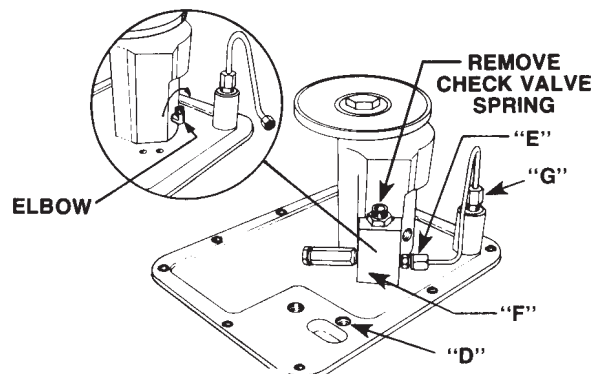

FIGURE 2
5. Remove the connector from the check valve to locate and remove the spring. See Figure 2.
8. Disconnect the small oil line (Figure 2, Item "E") at the check valve and loosen the other end of the oil line at the pressure regulator "G".
10. Assemble the elbow into the threaded hole from which pipe plug "C" was removed. See Figure 2 inset for correct elbow position.
12. Insert the pipe nipple provided into the threaded hole (Figure 2, Item "D") located in the valve pad on the cover.